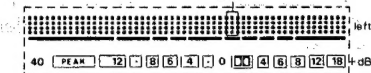

Fig. 21
9. At this time, check that 0dB indicator is dimmed (intermediate brightness between full brightness and light-out (See fig. 21).